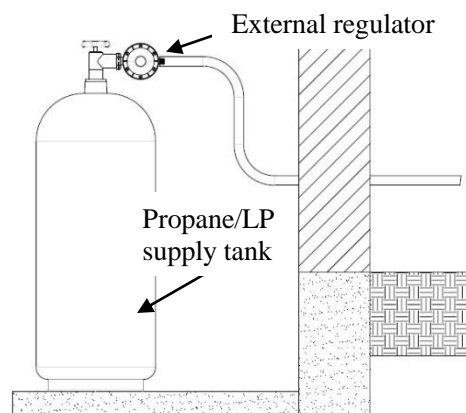

Figure 9 - External Regulator with Vent Pointing Down
**IMPORTANT:** Install an equipment shutoff valve in an accessible location where the gas pipe goes indoors. The equipment shutoff valve is for turning on or shutting off the gas to the appliance. Apply pipe joint sealant lightly to male threads. This will prevent excess sealant from going into pipe. Excess sealant in pipe could result in clogged heater valves. The installer must supply an external regulator with nominal outlet pressure of 11" water column and sufficient flow rates. Install external regulator with the vent pointing down as shown in Figure 9. Pointing the vent down protects it from freezing rain or sleet. If flexible gas hose is applied, it should meet the requirements of ANSI/UL569 Standard for Pigtail and Flexible Hose Connection for LP-Gas. Improper regulator and/or gas hose assembly may occur damage on your heater, property or/and personal body.